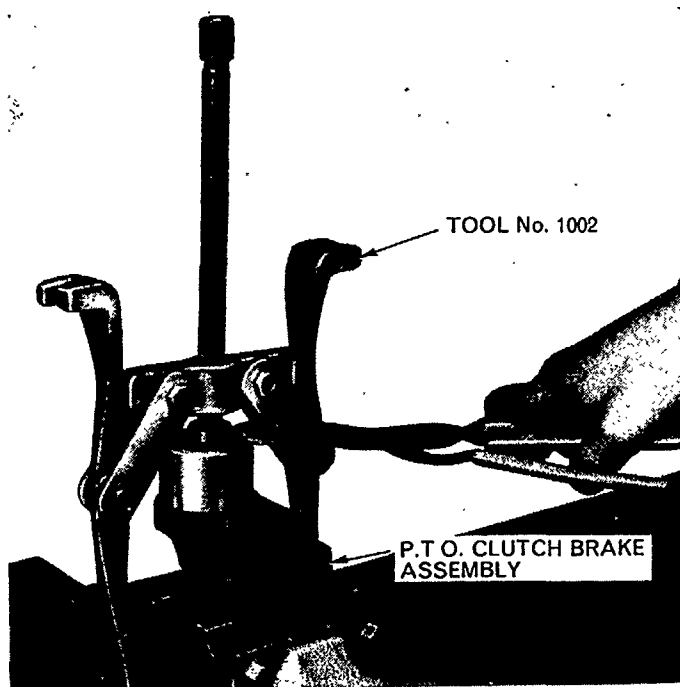

Figure 14
6. Mount the brake housing assembly in a vice as shown in Figure 14, and compress the brake spring using 1002 puller.
2. Mount the housing in a vice and position the brake spring retaining snap ring. Use Tool 1002 to compress the brake spring, Figure 14.